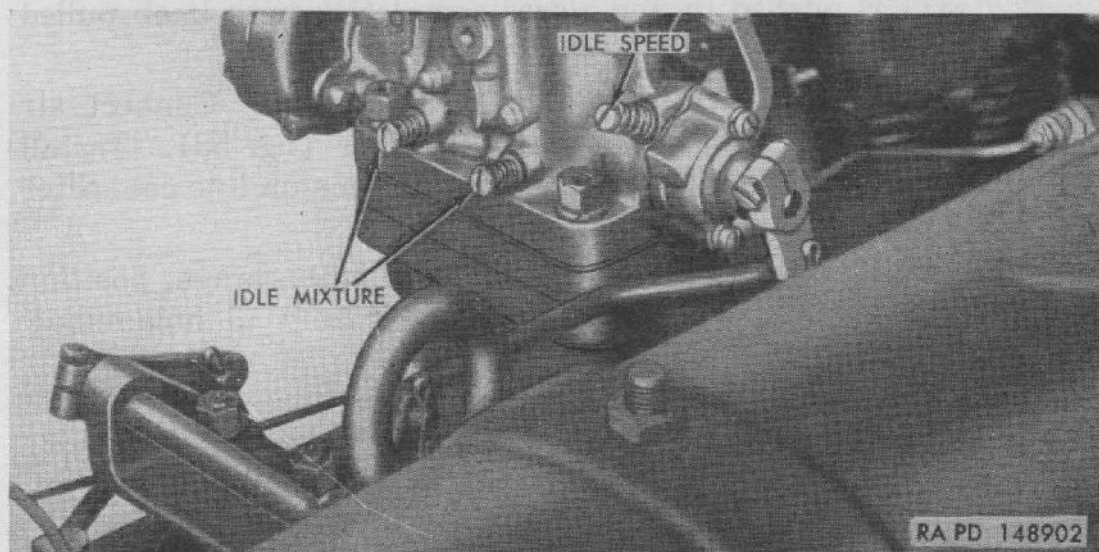

Figure 56. Carburetor adjustment screws.
b. ADJUSTMENTS. One screw is provided at carburetor for setting engine idling speed and idling mixture is controlled by two adjustable screws (fig. 56). Electric type tachometer designed to operate from ignition primary circuit must be available for use in making idling speed adjustment. Vacuum gage must be used as well as tachometer when adjusting carburetor idling mixture.